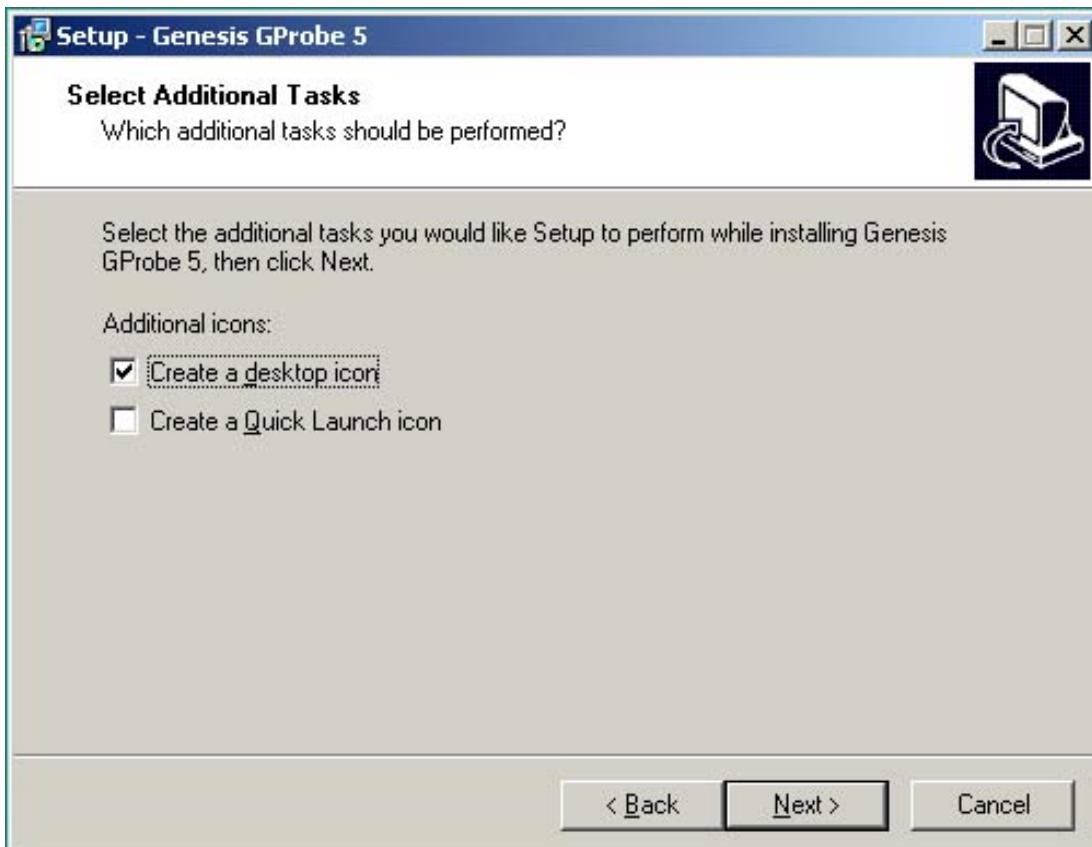

Fig. 0.5
0.5 Keep on press “Next”, see Fig. 0.5